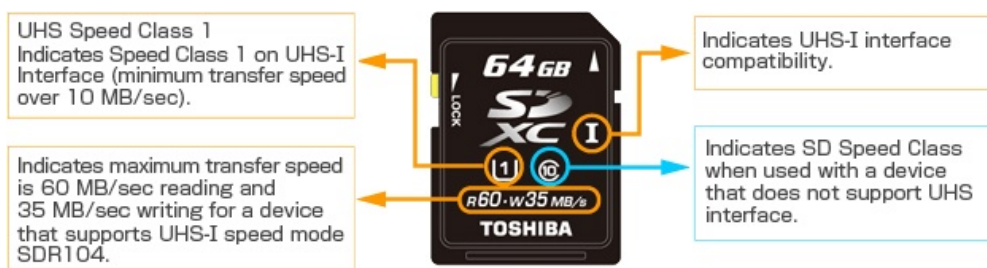

Figure 6.12: Speed class rating on a memory card⁷
Figure 6.12 shows a 64GB SDXC memory card with the both class designations (U1 and C10), with the UHS-I specification. The both classes specify a minimum write speed of 10 MBps, but this does not mean that the card could not communicate faster (the bus allows it, it also depends on the controller). Under speed classes it is even written that the card can read (R) up to 60 MBps, write (W) up to 35 MBps, in case if it is inside a UHS-I reader.